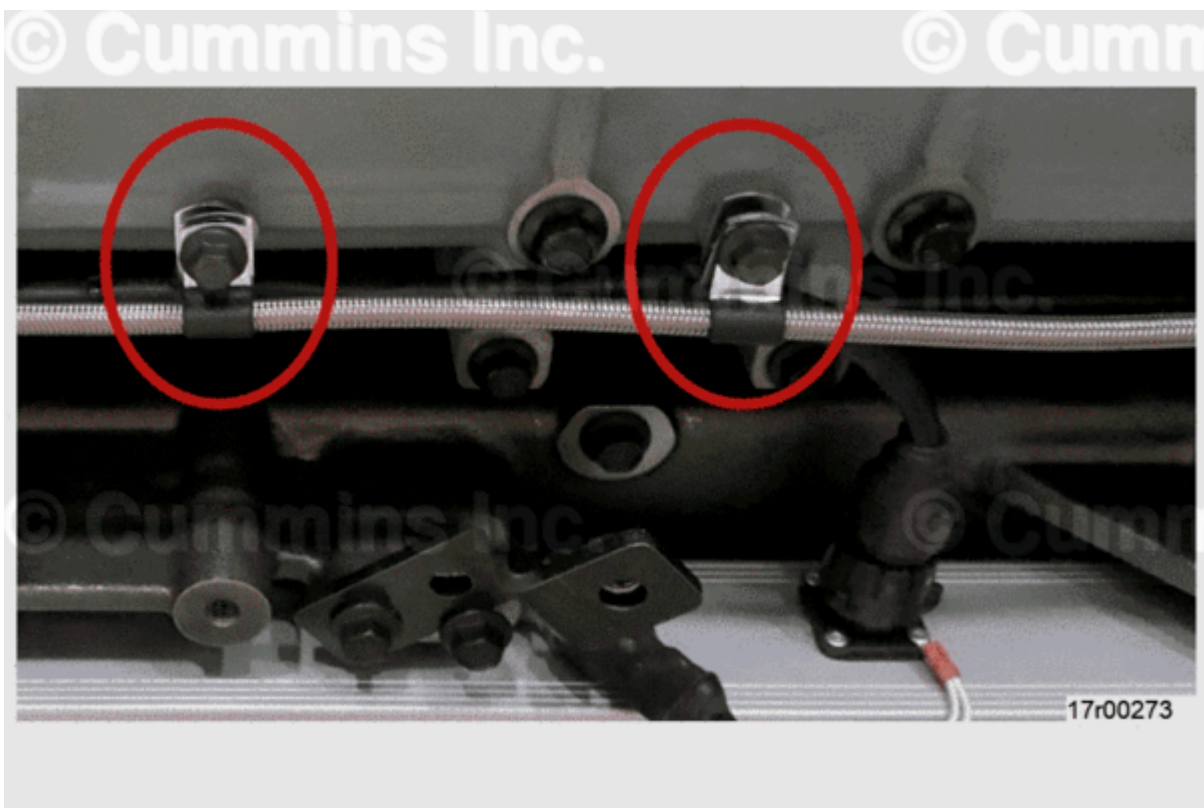

Figure 5, P Clip Locations.
2. Install two new p-clips with capscrews to aftercooler bolt holes in an inboard orientation. Verify wiring harness is **not** interfering with surrounding components. See Figure 5 above.